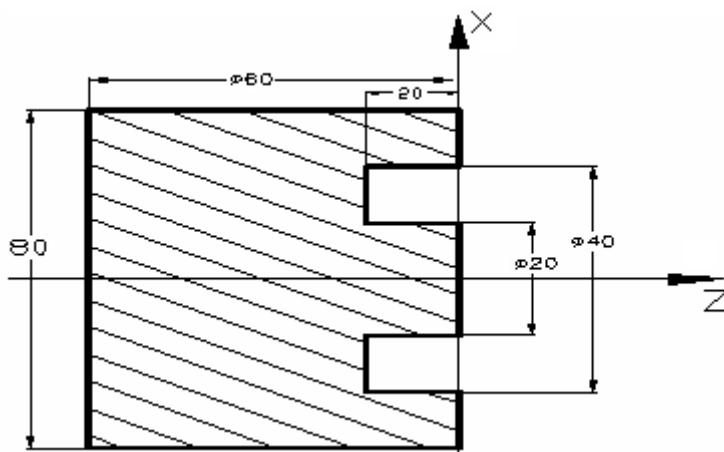

Fig.2-51
⑦ X rapidly returns to the start point A, and G74 execution processing ends.
**Example:** Fig. 2-51